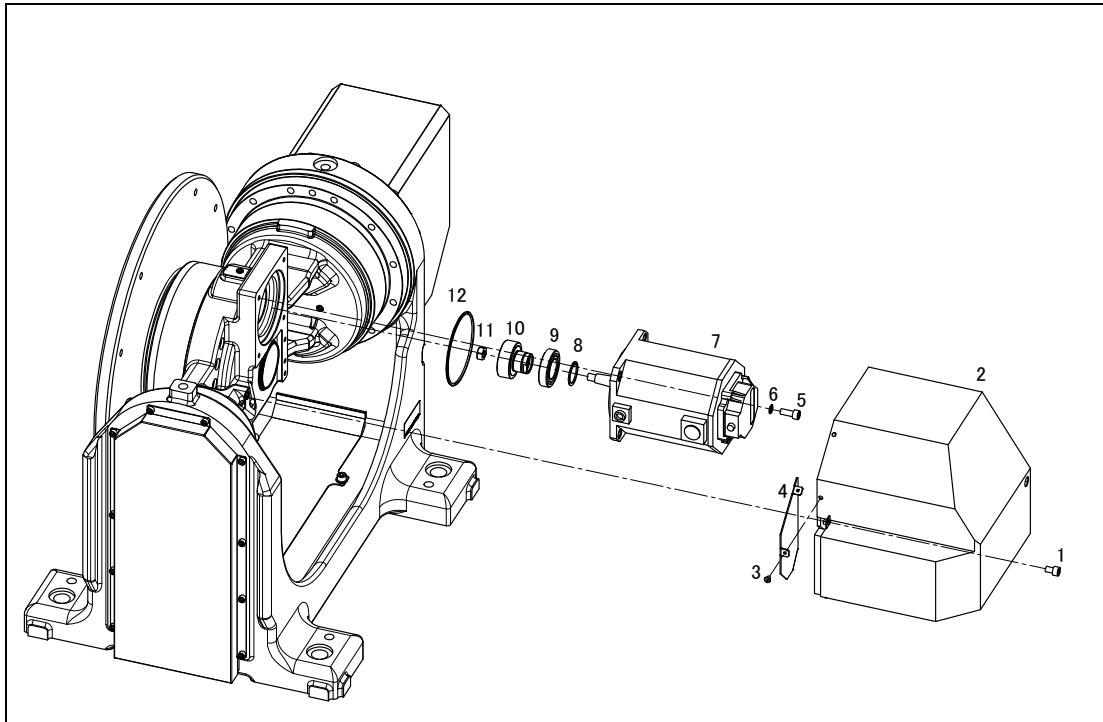

Fig. 6.3 (a) Replacing the J2-axis motor
- 2 Put the J1-axis in the 90° posture (Fig. 6.3 (a)).
- 4 Remove the bolts (1), (3) that fix the J2-axis motor covers and remove the J2-axis motor covers (2) and (4).
- 6 Remove the four motor mounting bolts (5) and washers (6) and remove the motor (7) from the J2 base. Note that grease spills during removal of the motor.
- 7 Remove the C-ring (8), bearing (9), gear (10), nut (11) and O-ring (12), replace the bearing (9) and O-ring (12) with new ones, and attach them by reversing the order.
- 8 Apply LOCTITE 243 to the threaded portion of a new motor and tighten the nut (11) with a torque of 16.7 Nm.
- 9 Make sure that the O-ring (12) is correctly attached to the motor mounting portion of the J2 base and mount the motor (7) on the J2 base with bolts (5) and washers (6) At this time, do not forcibly push and mount the motor.
- 12 Attach the J2-axis motor covers (2) and (4).